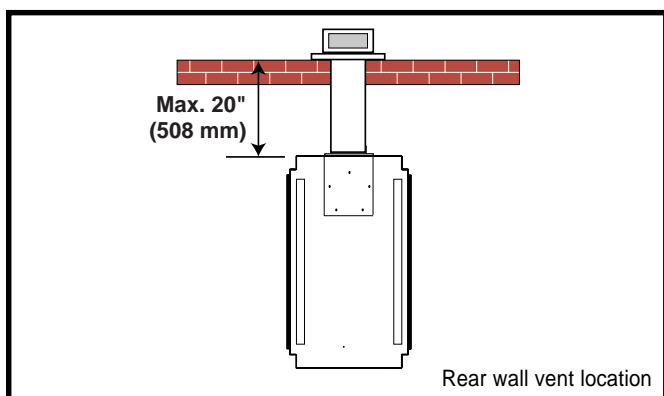

Fig. 18 Rear vent application
- Specific rear vent starter kits must be used in these applications (see 'venting components'). The appliance has been approved for installation flat against a rear wall (Fig. 18).
- Maximum horizontal distance between the rear of the appliance and the outside face of the rear wall is 20 in. (508 mm) (Fig. 18).